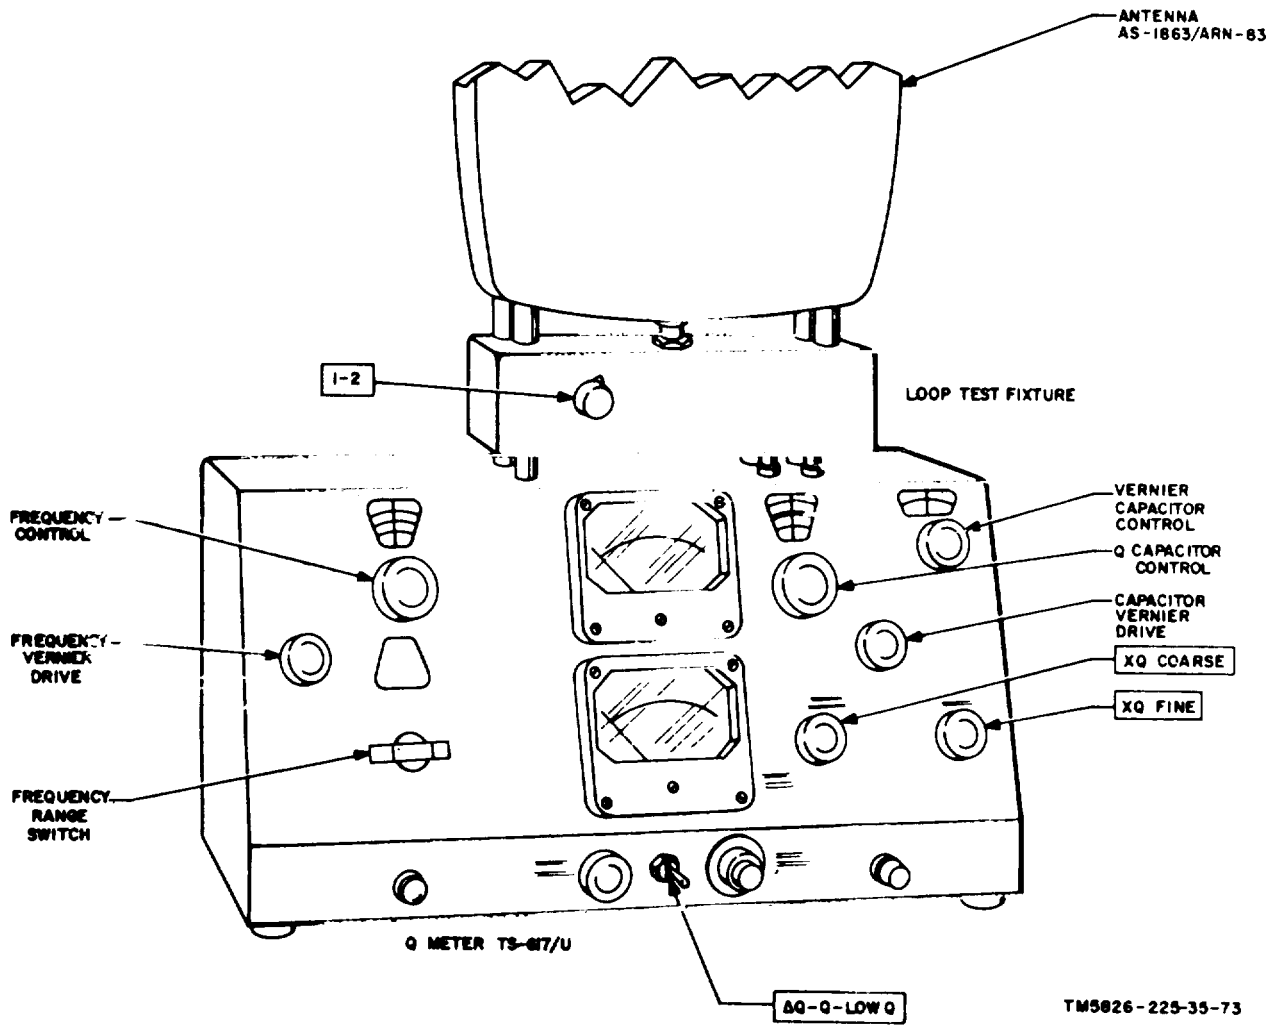

Figure 4-10. Loop antenna test.
- (1) Loop test fixture of Test Set, Direction Finder Set AN/ARM-93.
- (2) Q Meter TS-617/U.
b. Test Connections and Conditions. Connect the test equipment as shown in figure 4-10.